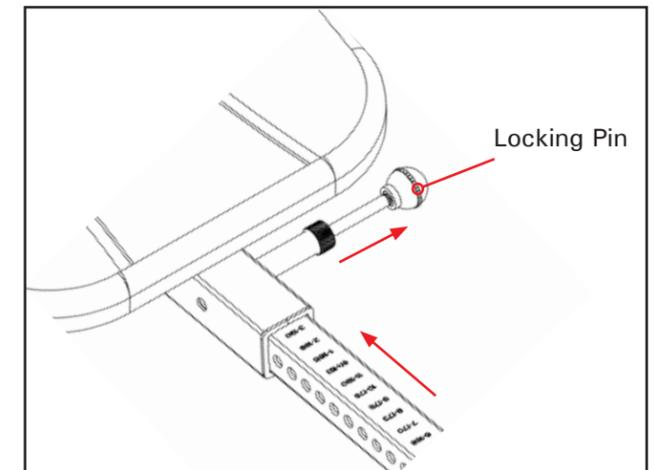

Figure 10
- Pull out the height selector locking pin to allow the Main Shaft to slide in further (Figure 10). For the purpose of easy assembly, slide in the Main Shaft and release the pin in the last height setting (Refer to the Owner's Manual for proper height adjustment before use).